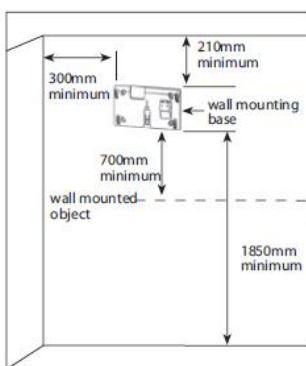

Figure 1. Installation Location.
- The Wall Mounting Base should be positioned as shown in Figure 1.